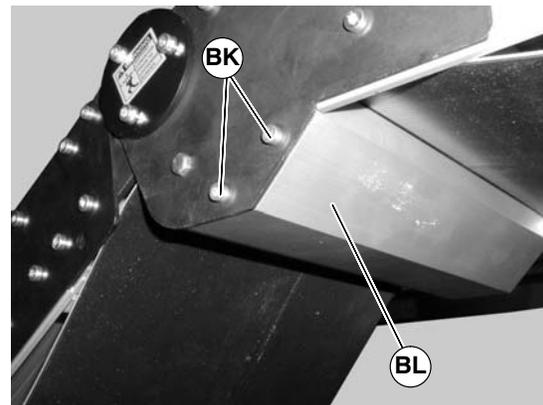

Figure 77
- Remove screws (BK of Figure 77) on both sides of knuckle and remove guard (BL).